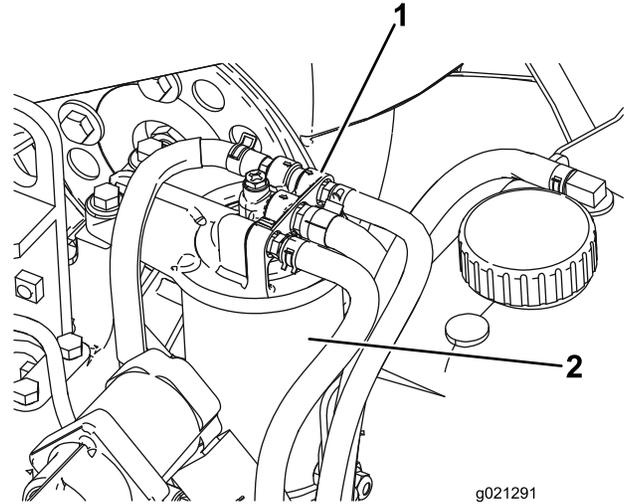

Figure 84
1. Clean the area around the fuel-filter head (Figure 84).
2. Remove the filter and clean the filter head mounting surface (Figure 84).